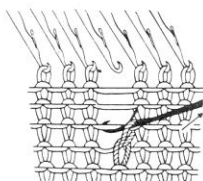

Fig.49-5
- d) Repeat until the last strand has been picked up. (Figs.49-5 & 6)